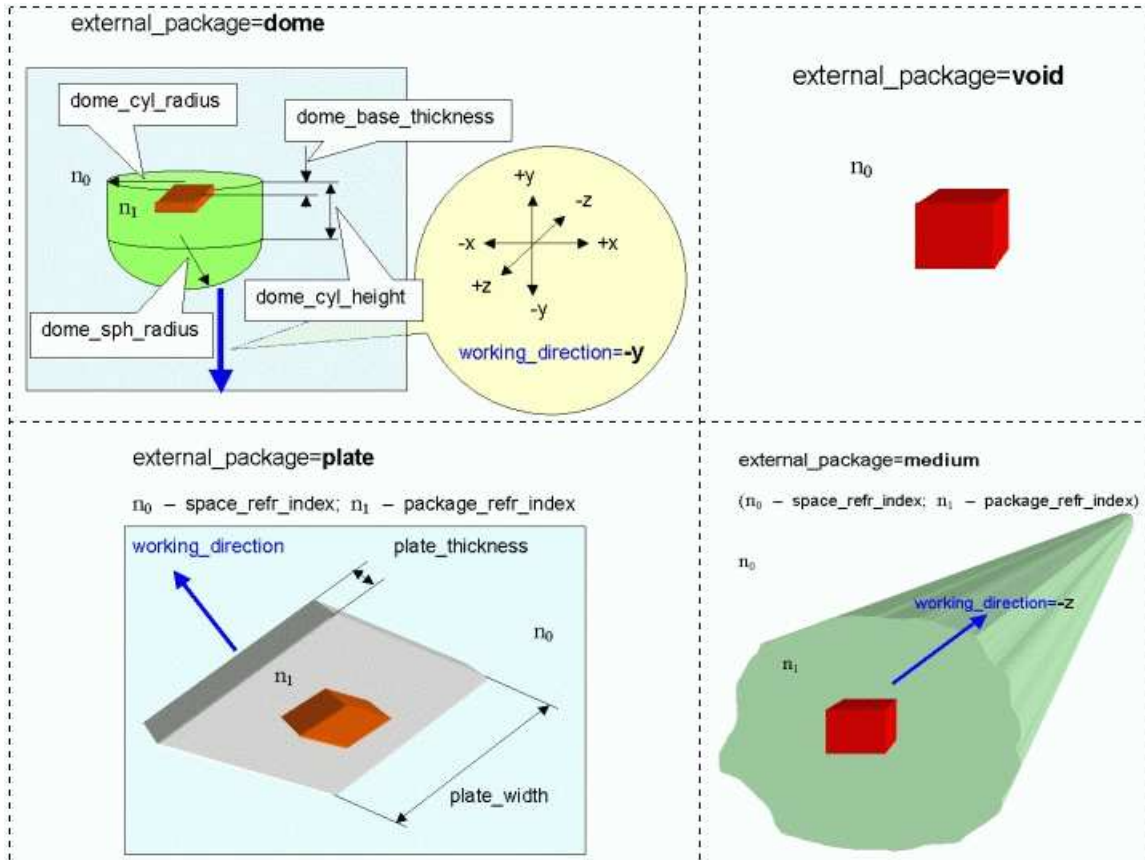

Figure 2.7: An explanation of the packages parameters
- **working_direction** defines the working direction of all packages. It can be chosen as: **-x**, **+x**, **-y**, **+y**, **-z**, or **+z**. Figure 2.7 shows how this parameter is defined.
- **plate_thickness**, **plate_width**, **dome_cyl_height**, **dome_cyl_radius**, **dome_sph_radius**, **dome_base_thickness** are geometrical dimensional parameters of the packages. Figure 2.7 illustrates the meaning of all these parameters. They are in units of μm . A given package is built around (or besides) the device. If one or more sizes of a package are set less than device sizes, the program corrects the sizes automatically to their possible minimum values.